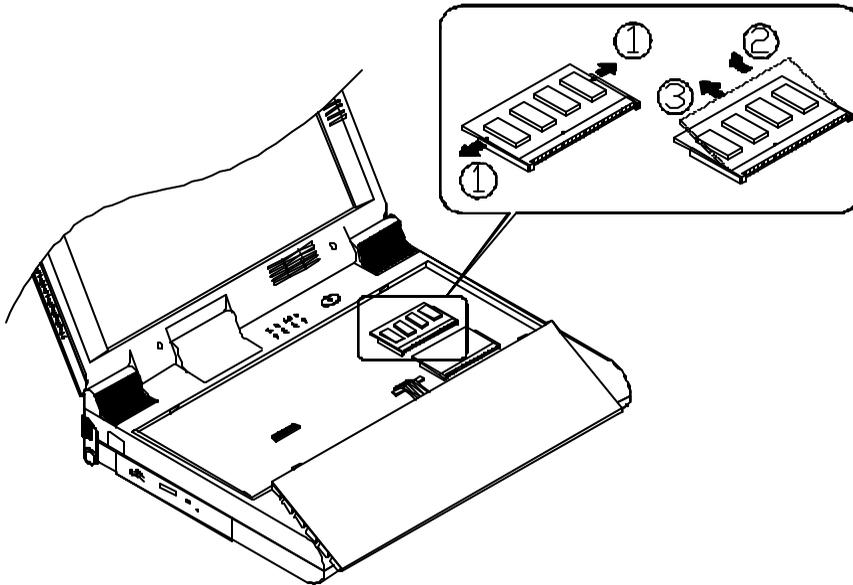

Figure 2-10
4. Gently pull outward the two latches on both ends of the module. The module will pop up (Figure 2-10).